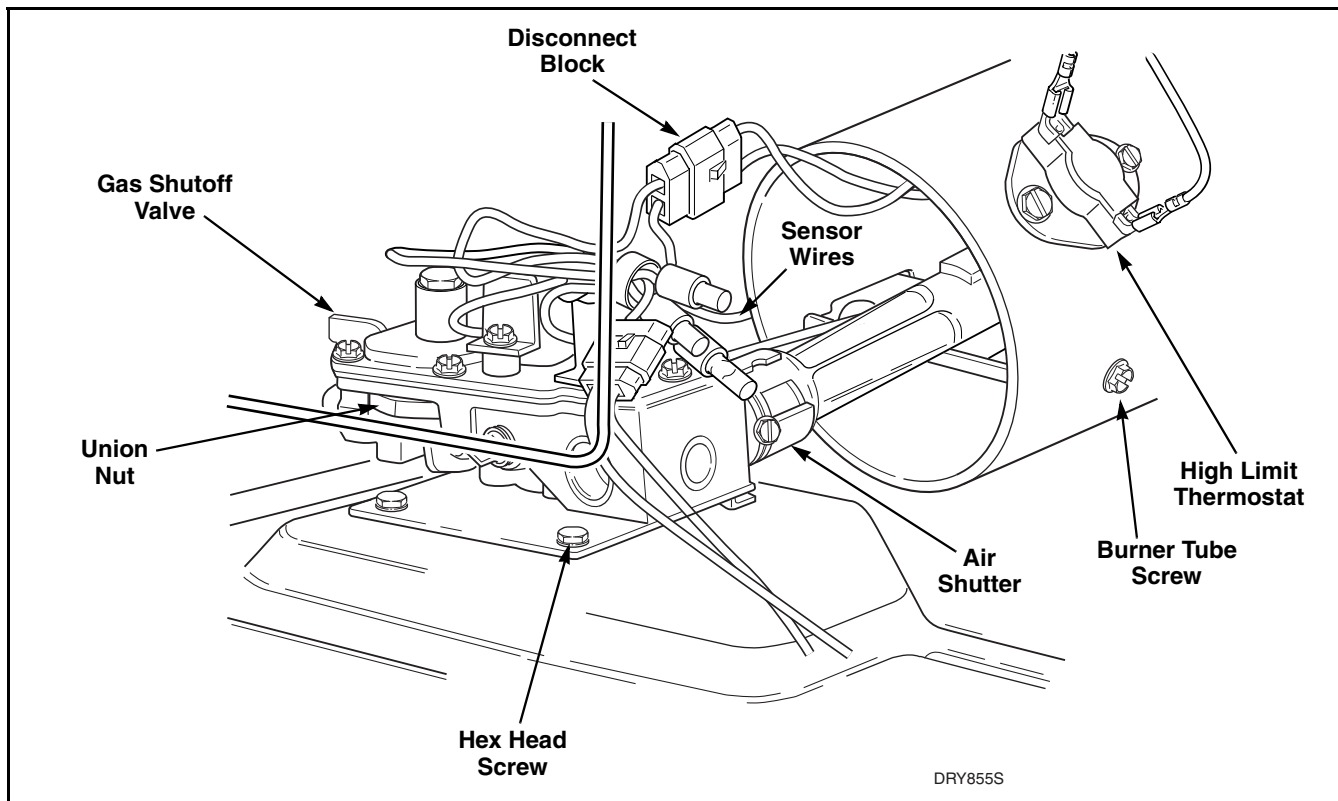

Figure 7
- (2) Close gas shut-off valve and disconnect wires from sensor and at quick disconnect blocks. Refer to *Figure 7*.
- (3) Loosen union nut between gas shutoff valve and nipple connector to gas valve. Unthread nut from nipple completely. Refer to *Figure 7*.
- (4) Remove three hex head screws holding valve and mounting bracket to base. Refer to *Figure 7*.
- (5) Lift gas valve and mounting bracket from base and carefully remove through access door opening.
- (1) Remove one screw from right side of burner housing holding burner tube in place. Refer to *Figure 7*.
- b. Close gas shutoff valve and disconnect wires from sensor, at disconnect blocks. Refer to *Figure 7*.
- c. Loosen union nut between gas shutoff valve and nipple connector to gas valve. Unthread nut from nipple completely. Refer to *Figure 7*.
- d. Remove screws holding valve and bracket to base. Refer to *Figure 7*.
- f. Remove screw from right side of burner housing holding burner tube in place. Refer to *Figure 7*.